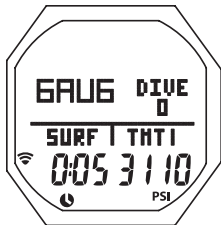

Fig. 115A - GAUG SURF
**GAUG SURF MAIN**, information includes (Fig. 115A/B):